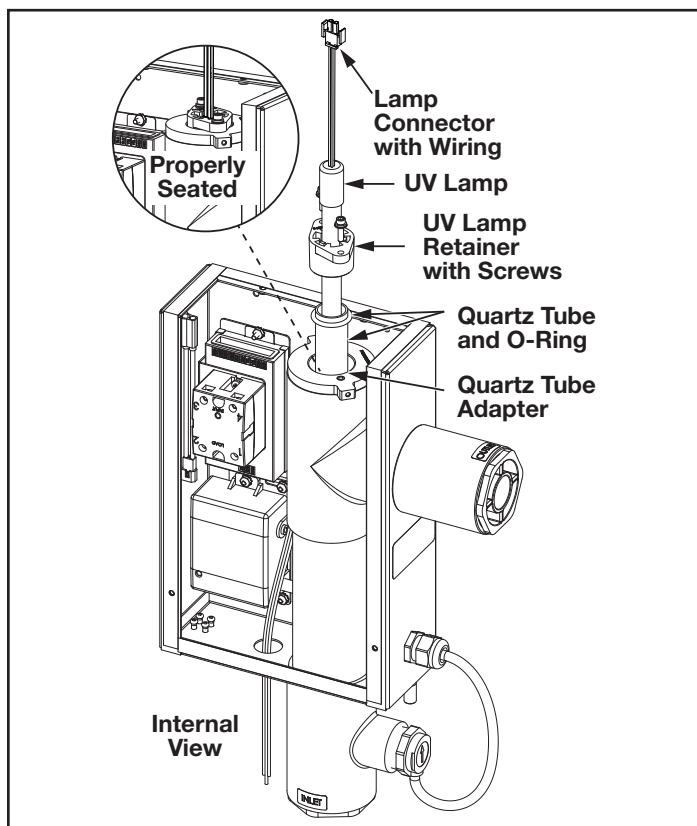

Figure 9. Jandy Offline AOP Quartz Tube Installation
6. After removing the lamps, remove the top lamp retainer screws using the hex key included in the parts bag. See Figure 9. Place the lamp retainer screws, washers and the lamp retainer aside in a safe place.